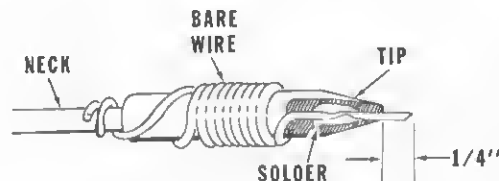

Figure 1
**NOTE:** When you solder integrated circuit sockets you will need a small wattage, small-tip soldering iron. If one of these is not available, proceed as follows: Be sure your soldering iron is cool. Then wrap the large bare wire, supplied with this kit, tightly around the soldering iron tip as shown in Figure 1. Allow approximately 1/4" of wire to extend beyond the end of the soldering iron. Cut the wire end to a chisel shape as shown. After the iron is hot, apply solder to the wire windings.